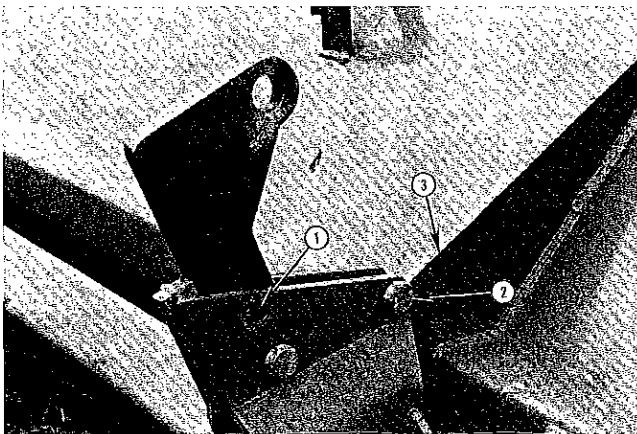

FIGURE 49 PHOTO NO 3198
7. If ratchet jack(s), or aftermarket hydraulics, are to be used elsewhere, insure rockshaft lockup bolt(s) are in their storage position. See Figure 49, page 23.